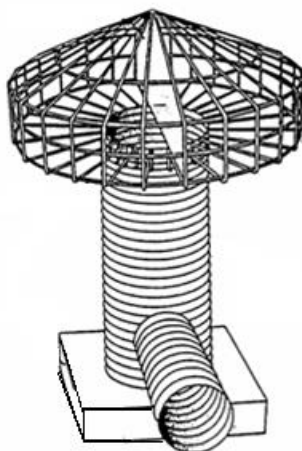
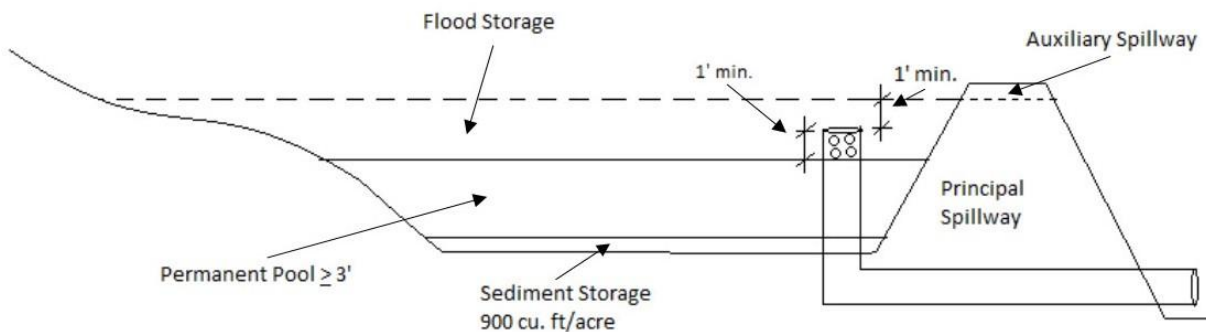

Figure 17. Trash rack and baffle.
Figure 20. Cross section of a sediment pond (not drawn to scale).
Principal Spillway: The Principal spillway should be in open water areas 4'-6' deep and allow the CW to be drained for maintenance. Outlet devices are generally multistage structures with orifices, or weirs for flow control. If using pipe, anti-seep collars must be installed every 10'-25'. If using pipe, the principal spillway shall have a trash rack installed (Figure 17). **The principal spillway should be fitted with a valve to drain the entire pond during cleaning operations (not depicted in drawings).**
- Permanent pool must be minimum of 3' deep and additional depth is necessary for all sediment storage (Figures 20 and 21). Design the sediment storage for a minimum of 900ft³/acre of disturbed area.
The Principal spillway pipe conduit shall be placed under or through the dam (Figure 20) and anti-seep collars must be installed every 10'-25'. The top of the principal spillway shall be 1' or more below the auxiliary spillway and a minimum of 1' above the permanent pool level (Figure 20). Perforate the length of pipe above permanent pool so that draw down to permanent pool is gradual, but leave the top open so that it can run at full capacity when the pipe is overtopped. The diameter of pipe must be 6" or greater. The principal spillway shall have a trash rack installed (Figure 17). **Fit the principal spillway with a valve to drain the entire pond during cleaning operations** (not depicted in drawing).